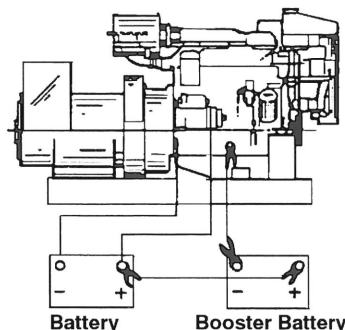

Figure 21:
3. First, connect positive (+) terminal of booster battery to positive (+) terminal of main battery. Then, connect negative (-) terminal of booster battery to ground on the engine block (see Figure 21).